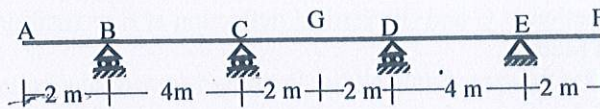

Fig.7
7. (i) Draw the qualitative influence lines of the beam shown in **Fig.7**. [05]
- (ii) Analyze the beam to calculate the maximum value of M_G (Positive), if the beam (**Fig.7**) is subjected to a uniformly distributed dead load of 30 kN/m, moving live load of 14 kN/m and 44 kN concentrated load [Given: $EI = \text{constant}$]. [10]